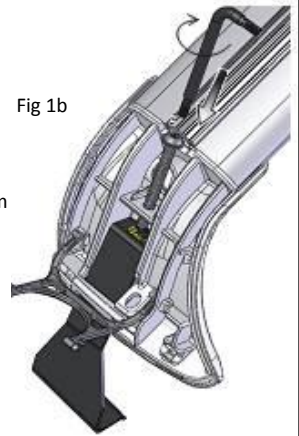

Fig 1b
4. Use the supplied "L" wrench to feed the bolts into the cage nuts (Fig 1b). The "L" wrench is located inside the support.